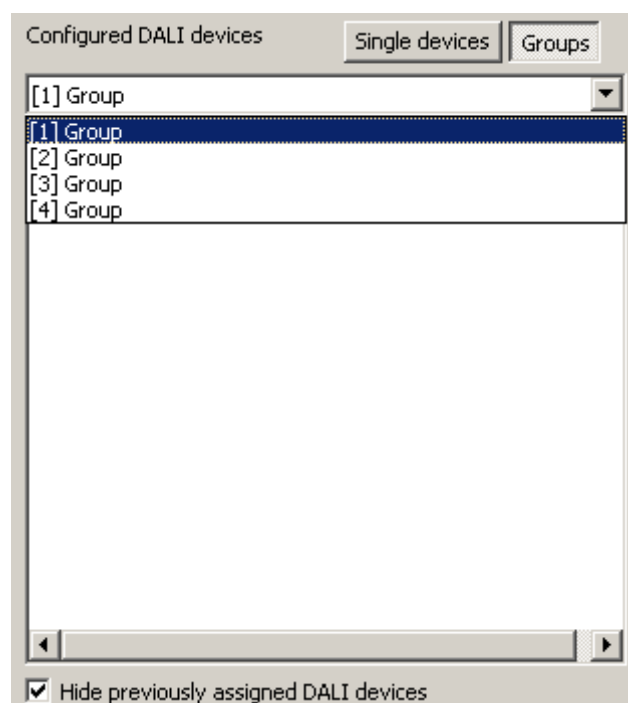

Figure 63: Selecting a group
- In the left-hand section of the DALI commissioning environment, select the required group to which the operating devices are to be added (figure 63).